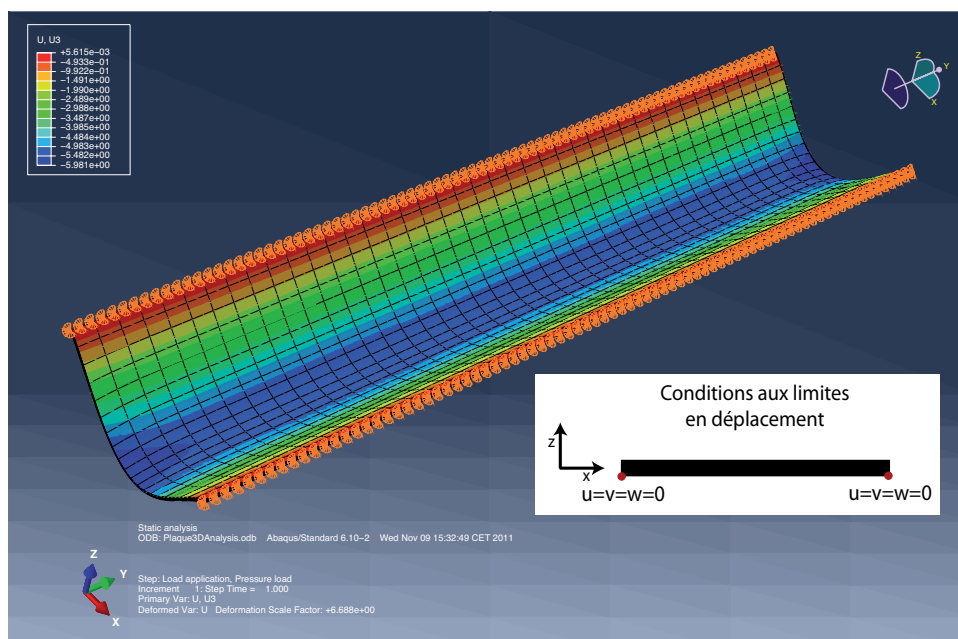

Figure 5 • 3D computation (volumic elements)
- Compare the results obtained with the results of the finite element calculations (3D elements) given in Figures 5 and 6. The two calculations differ in terms of the boundary conditions, specified in these figures. Comment on and interpret any differences.